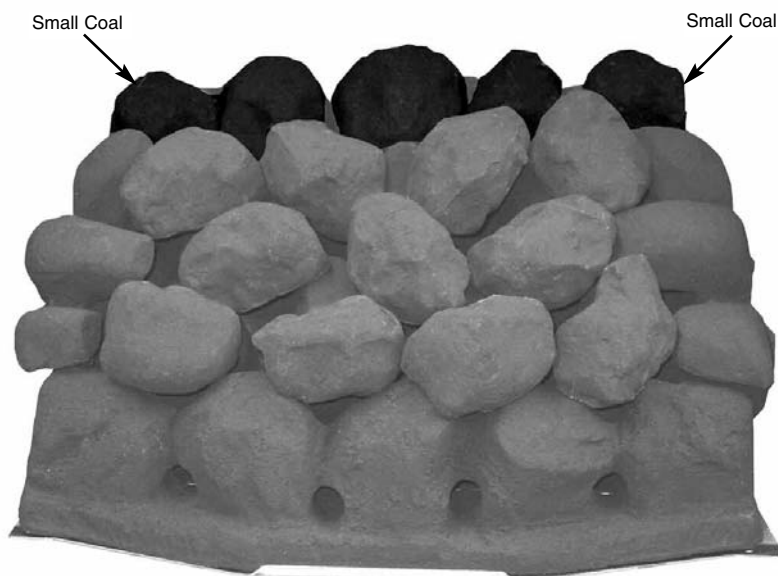

Fig. 23
8. Place the next three coals in the middle, on the back edge of the coals previously laid ensuring even gaps all round. Finally place the two small coals, one in each top corner. Make any adjustments necessary to achieve even gaps as this will help in giving a well balanced flame picture and an even glow (Fig. 23).